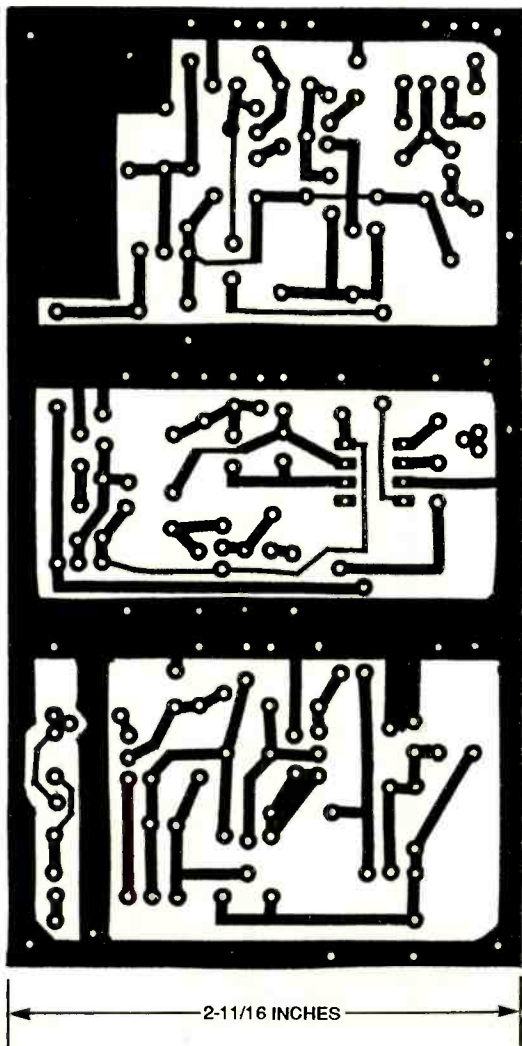

Fig. 2. Building the Converter on a PC board is strongly recommended. You can use this full-size pattern to make your own board.
**Construction.** To prevent stray capacitance and ensure the best-sounding reception, you should build the Shortwave Converter on a printed-circuit board. If you'd like to etch your own, you can use the full-size pattern shown in Fig. 2. Or you could order an etched and drilled board from the source given in the Parts List. The PC board was designed to fit in the bottom of a standard 5¼- × 3- × 2½-inch metal Minibox, but any metal enclosure that is large enough can be used.